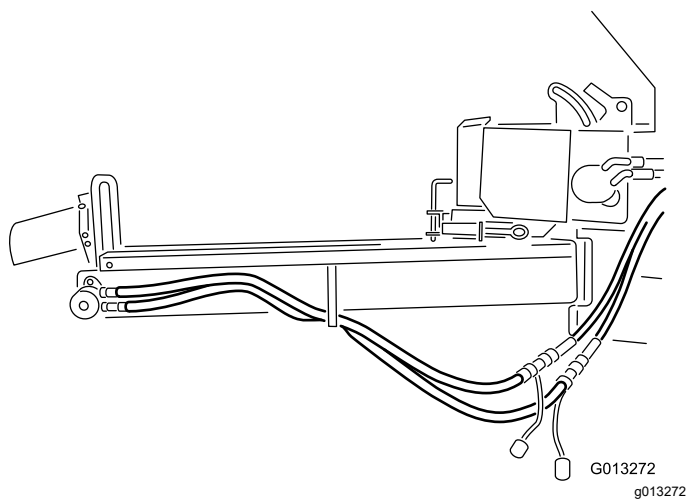

Figure 9
11. Connect the hoses as shown in **Figure 9**.